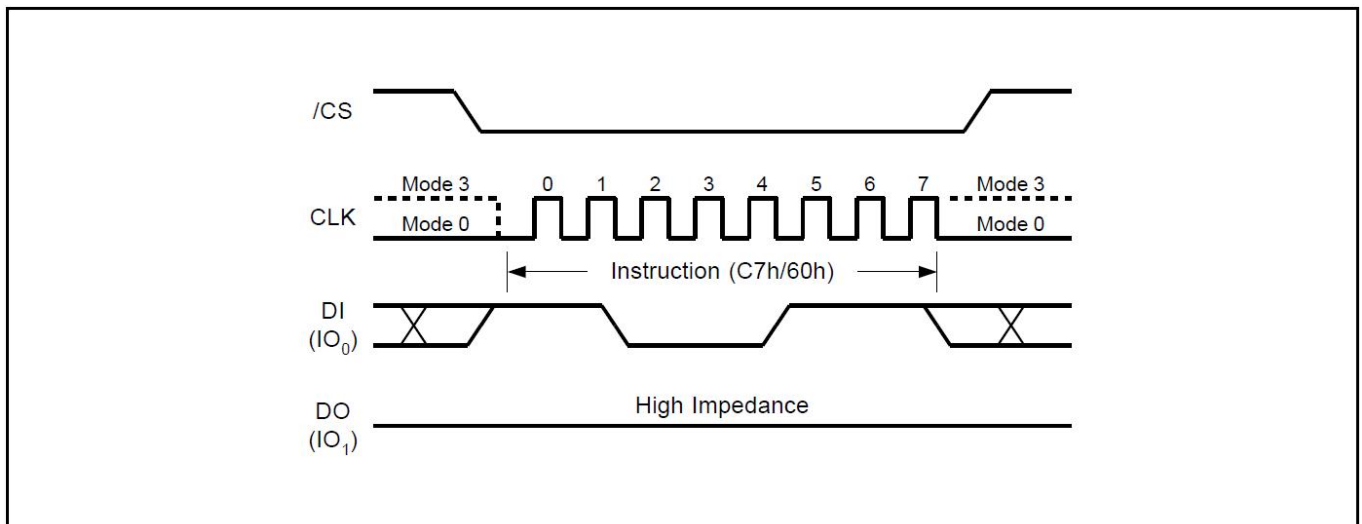

Figure18. Chip Erase Sequence Diagram
The Chip Erase command sequence: CS# goes low → sending Chip Erase command → CS# goes high. The command sequence is shown in Figure18. CS# must be driven high after the eighth bit of the command code has been latched in; otherwise the Chip Erase command is not executed. As soon as CS# is driven high, the self-timed Chip Erase cycle (whose duration is Tce) is initiated. While the Chip Erase cycle is in progress, the Status Register may be read to check the value of the Write in Progress (BUSY) bit. The Write in Progress (BUSY) bit is 1 during the self-timed Chip Erase cycle, and is 0 when it is completed. At some unspecified time before the cycle is completed, the Write Enable Latch (WEL) bit is reset. The Chip Erase (CE) command is executed, if the Block Protect (BP2, BP1, and BP0) bits are 0 and CMP=0 or the Block Protect (BP2, BP1, and BP0) bits are 1 and CMP=1.